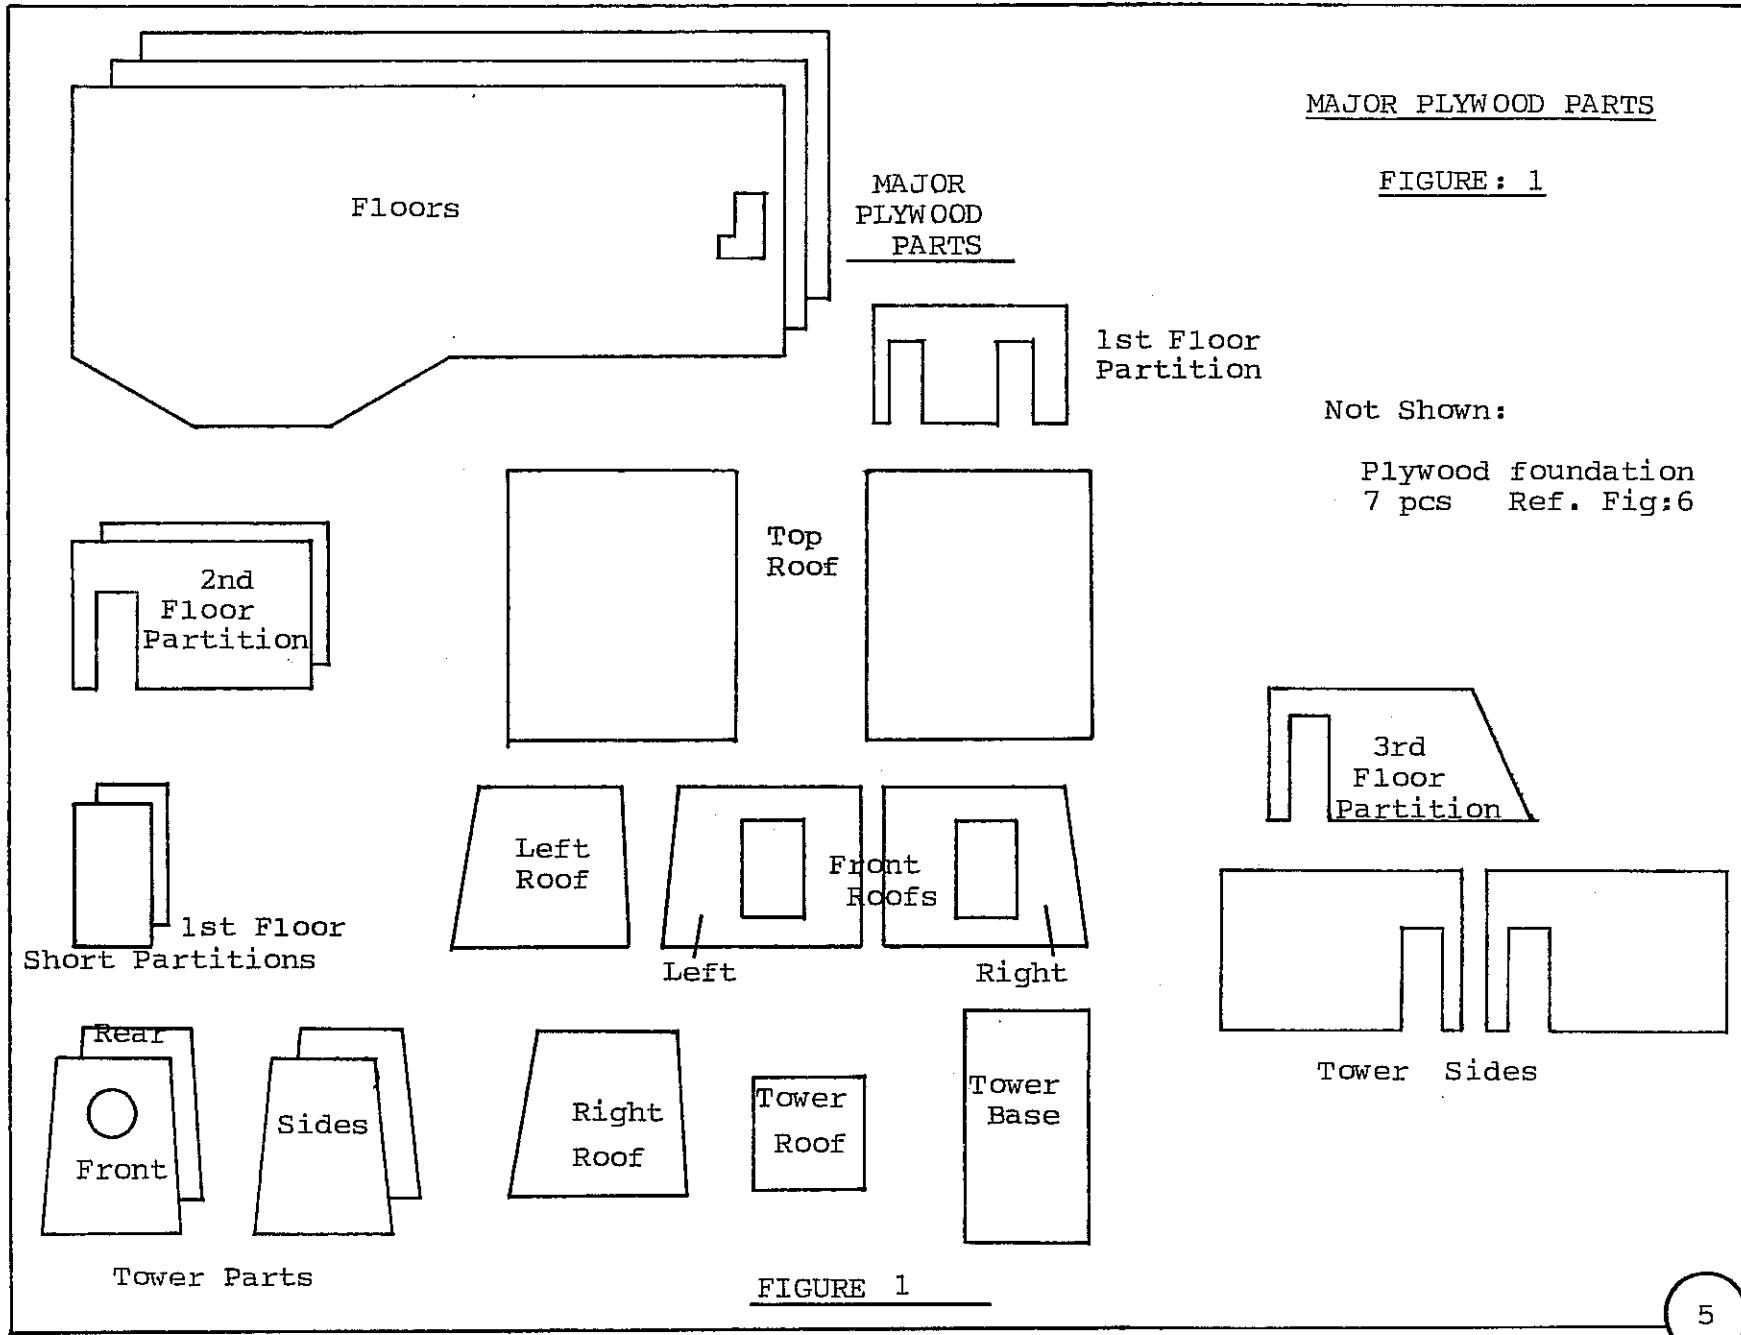

FIGURE 1
3) The first step is to identify and familiarize yourself with all the items in the kit. Figure 1 identifies the major plywood parts in the kit.